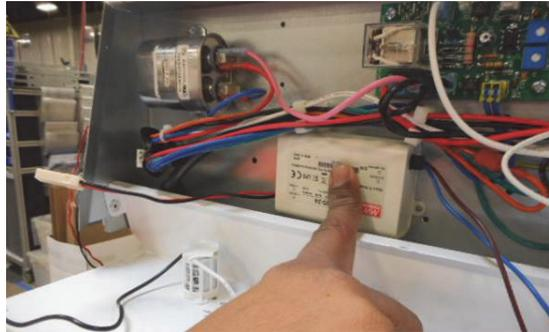

Figure 2C.
9. Install the power supply in the same location as ballast (See Figure 2C), this involves drilling two holes. Mark one hole 0.375" above the existing ballast hole and mark the other hole location using power supply as a template. Drill 0.128 holes (use # 30drill bit). Remove debris from the drilling operation.